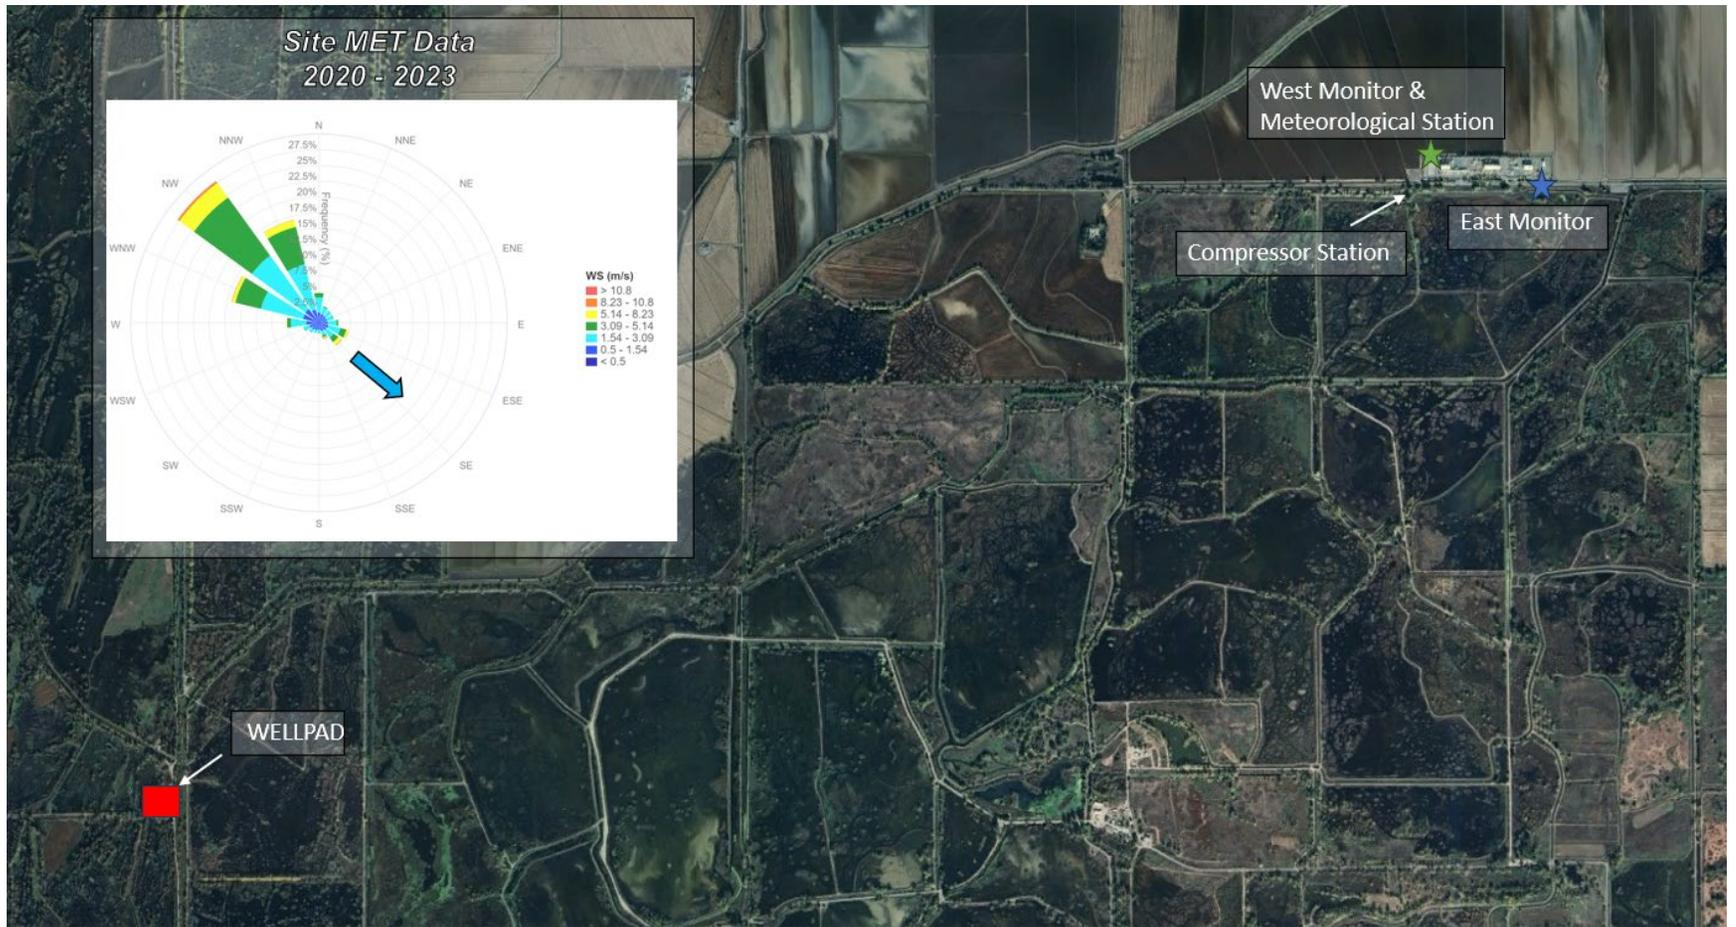
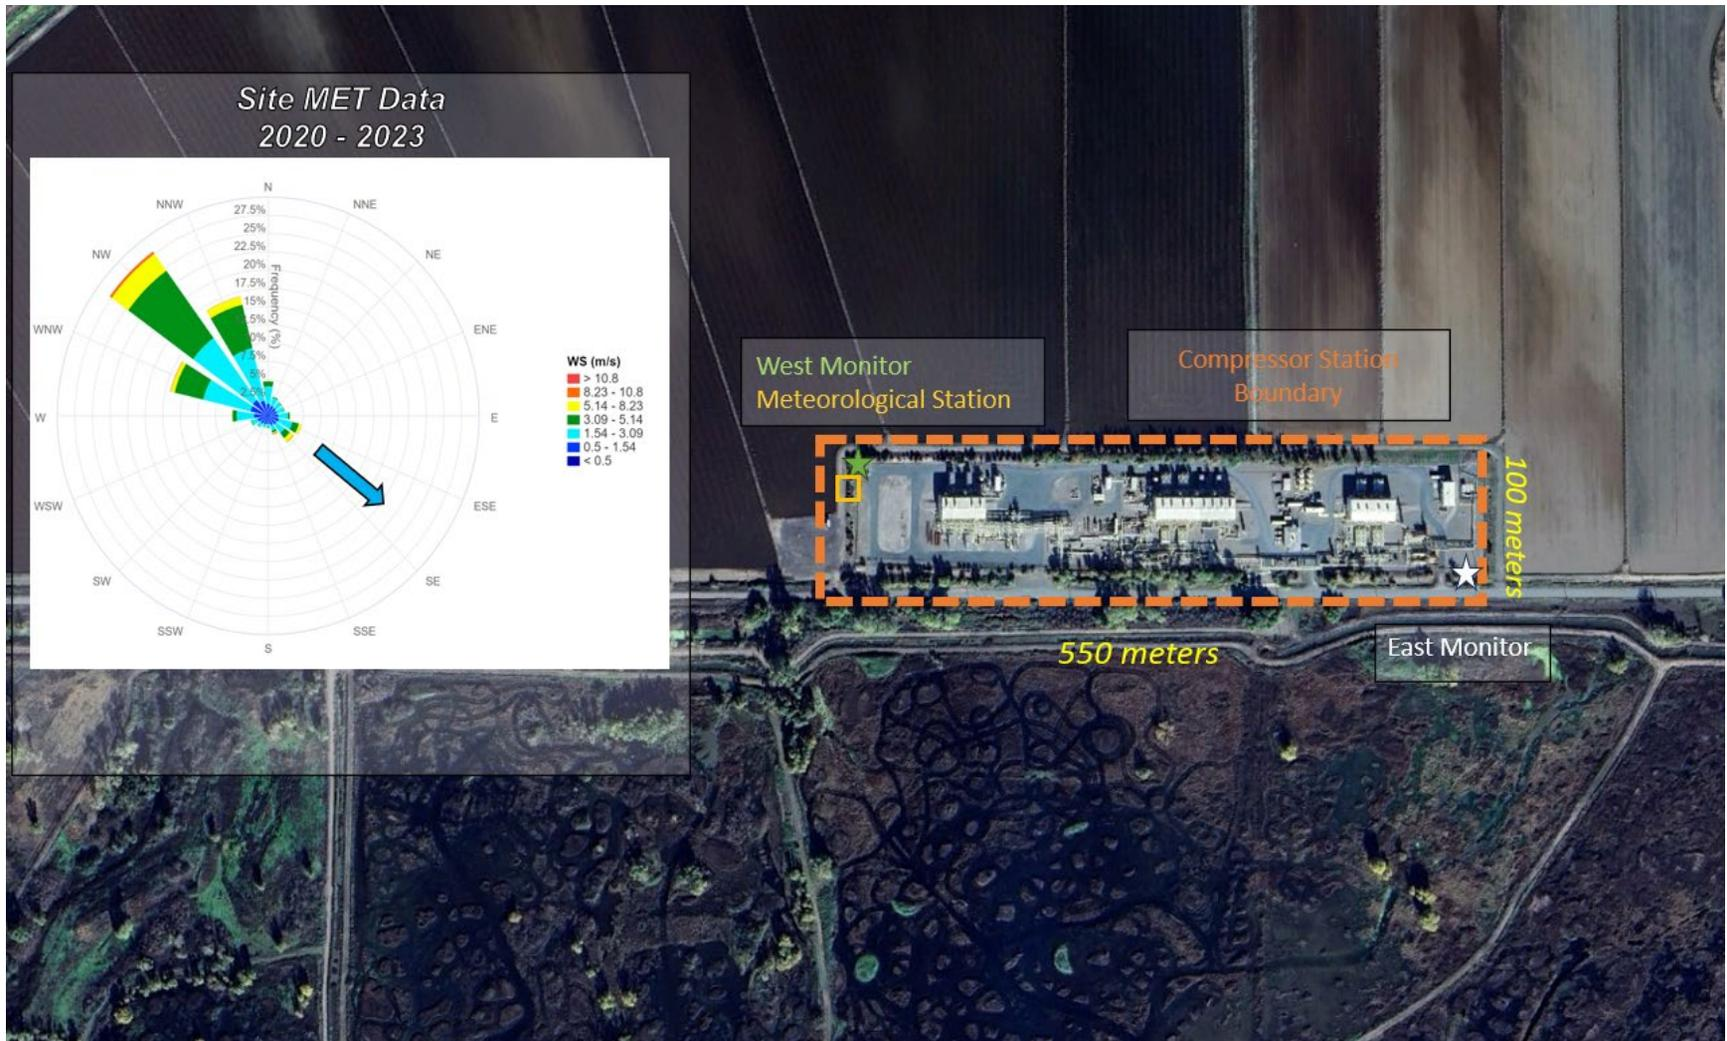

Figure 3: Locations of Ambient Monitors and Meteorological Station at Wild Goose Facility
Figure 4: Locations of Ambient Monitors and Meteorological Station in relation to the Compressor Station
Figure 3 and 4 identifies WGS's upwind and downwind locations for ambient monitors at the Wild Goose Facility. These monitoring locations and the meteorological tower are located at the following locations.
The wind rose, as captured by the WGS meteorological tower and shown in Figure 3 and 4 indicates the prevailing wind direction at the Facility is from the northwest. The first location selected for a monitor is on the southeast corner of the compressor station pad adjacent to West Liberty Road. The location of the second monitoring location is on the northwest corner of the compressor station pad adjacent to a utility road. The monitor locations are suitable for obtaining representative air quality measurements and minimally impacted by Wild Goose's emission sources.
The monitoring sites are selected based on suitability of terrain and distance from obstructions to ensure that representative data will be collected. Availability of power and accessibility to the site were also important considerations in choosing the location of the monitors. WGS believes the locations of the ambient monitors (as outlined in Figure 3) continue to act as a suitable methane monitoring network for the Facility. The locations of the ambient monitors and meteorological station in relation to the compressor station are presented in Figure 4.
As required by Section 95668(h)(4)(A)(2) of the Rule, the ambient monitoring system includes instrumentation that will allow for continuous measurement and recording of ambient temperature, ambient pressure, relative humidity, wind speed, and wind direction. WGS operates one 10-meter meteorological measurement tower at the Facility to measure the meteorological parameters discussed above. WGS believes the one station is adequate to provide meteorological data representative of conditions at the site. WGS installed the meteorological station at the same location as the West ambient air monitor shown in Figure 3 and 4. Placing the wind sensor a distance of at least 10 times the height of nearby obstacles, as recommended in EPA guidance, is not feasible at the site due to land area restrictions. However, the station is located in an open area with limited obstruction and surrounded by low-level vegetation and row crops. WGS believes the location provides sufficient meteorological data representative of the surrounding conditions.